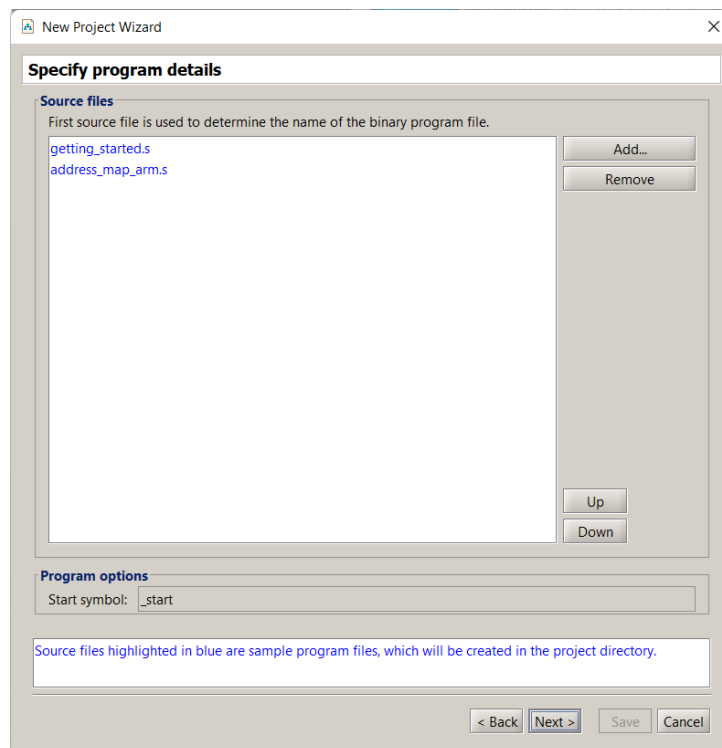
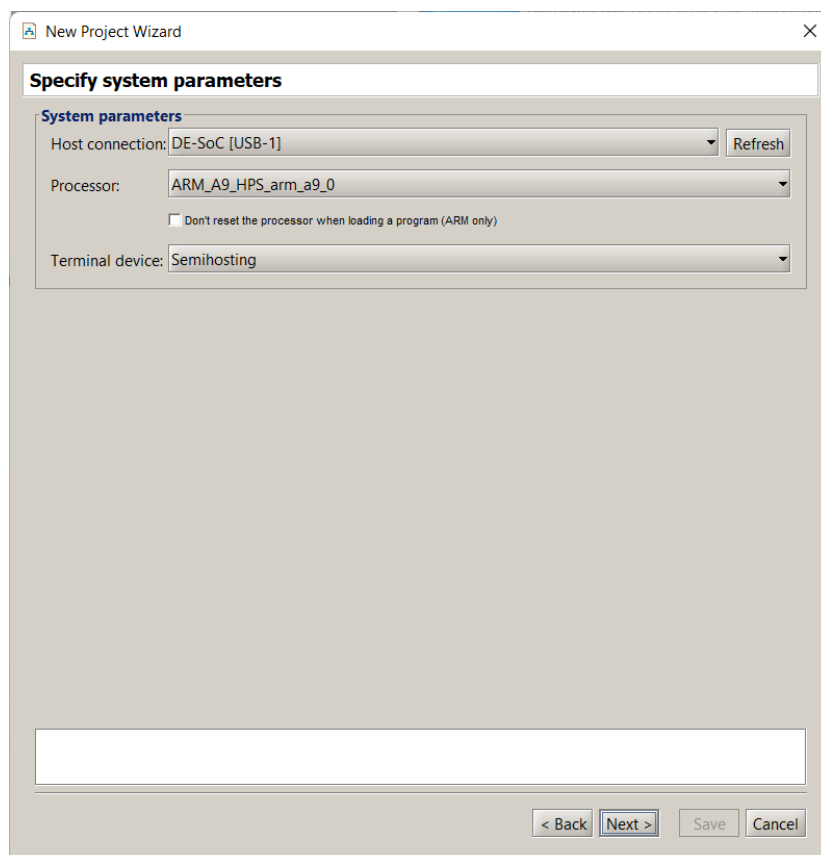
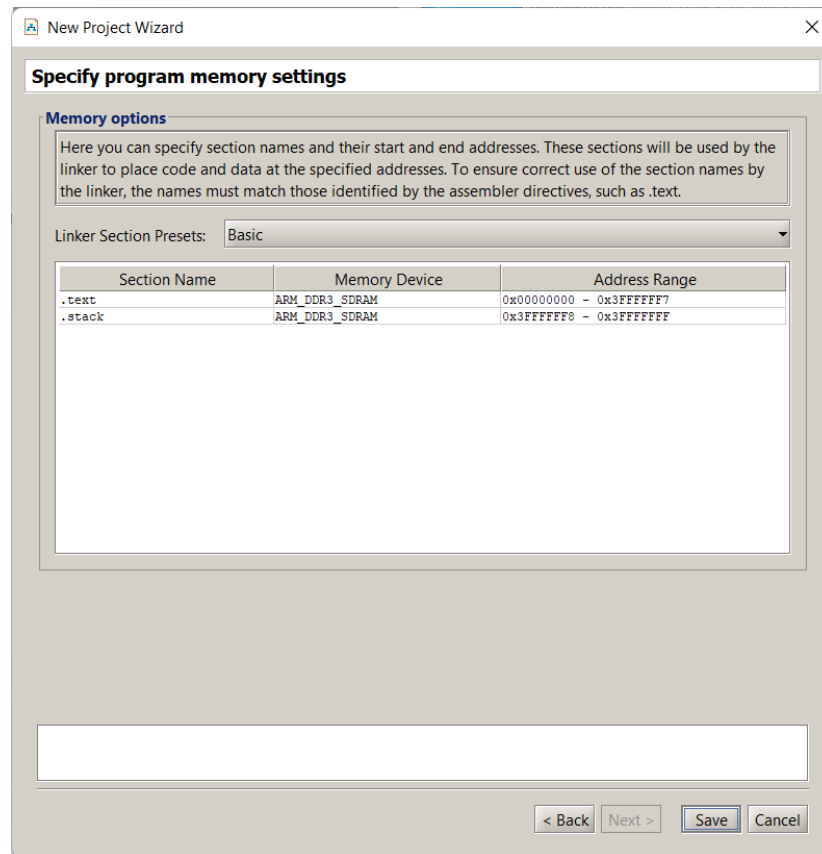

Figure 5: Source files used by the application program.
Figure 6: Specify the system parameters.
Figure 7: Specify the program memory settings.
5. The window in Figure 5 is used to specify the source file(s) that contain the application program(s). Since we have selected the *Getting Started* program, the window indicates the source code file for this program. This window also allows the user to specify the starting point in the selected application program. The default symbol is `_start`, which is used in the selected sample program. Click **Next**.
6. The window in Figure 6 indicates some system parameters. Note that the figure indicates that the *DE-SoC [USB-1]* cable is selected to provide the connection between the DE-series board and the host computer. This is the name assigned to the Intel USB Blaster connection between the computer and the board. Click **Next**.
7. The window in Figure 7 displays the names of Assembly sections that will be used for the program, and allows the user to select a target memory location for each section. In this case only the *.text* section, which corresponds to the program code (and data), will be used. As shown in the figure, the *.text* section is targeted to the DDR3 memory in the DE-series board, starting at address 0. Click **Save** to complete the specification of the new project.
2. Upon reaching the window in Figure 5, you have to specify the source code file for your program. Click **Add** and in the pop-up box that appears indicate the desired file name, *part3.s*. Click **Next** to get to the window in Figure 6. Again click **Next** to get to the window in Figure 7. Notice that the **DDR3_SDRAM** is selected as the memory device. Your program will be loaded starting at address 0 in this memory. Click **Save**. If you are prompted to download the DE1-SoC computer to your board, you can decline, as you already programmed the FPGA chip when performing Part II.